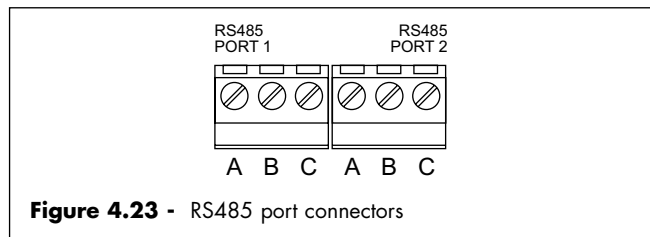

Figure 4.23 - RS485 port connectors
- Connect the two cores of the RS485 cable to screw terminals A & B of **Port 1** on the backplane - see Figure 4.23.